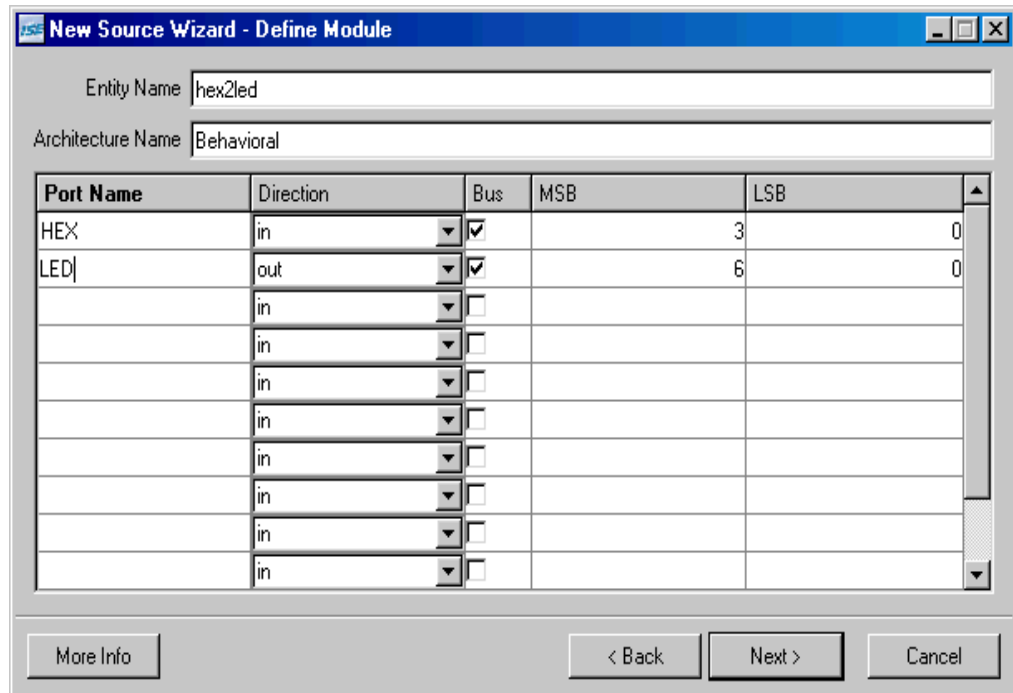

Figure 2-6: New Source Wizard for VHDL
- d. In the MSB field enter **3**, and in the LSB field enter **0**. Refer to Figure 2-6.